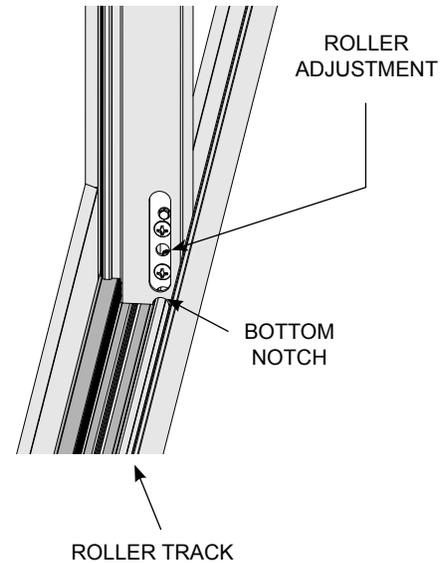

FIG. 16
3. Lift the panel and swing the bottom until it rests on the roller track while centering the bottom notch. (FIG. 16)